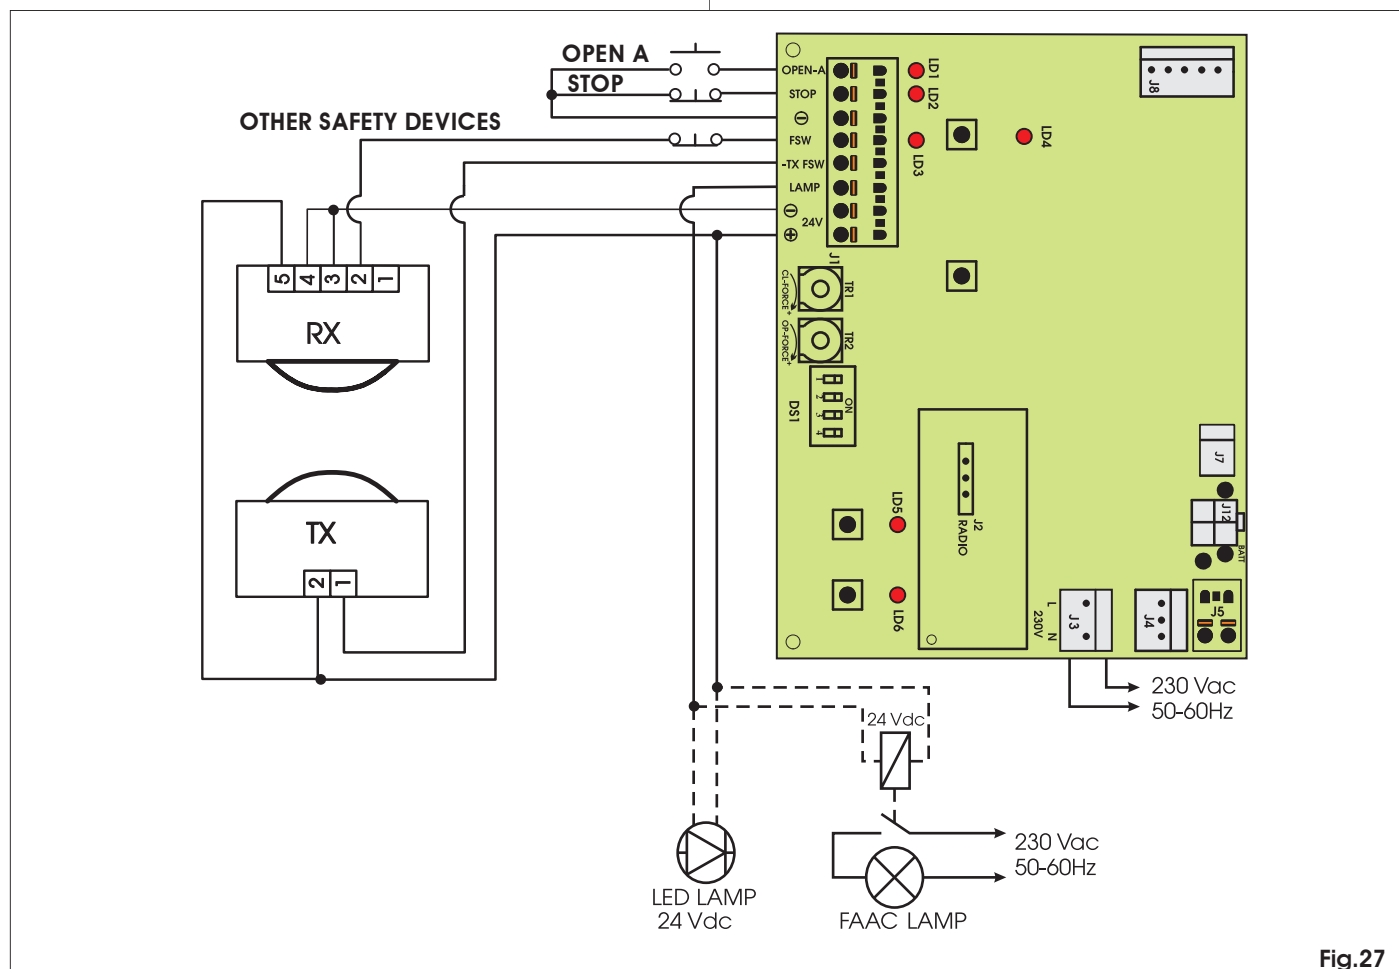

Fig.27
- Make the electrical connections, referring to Fig. 27.